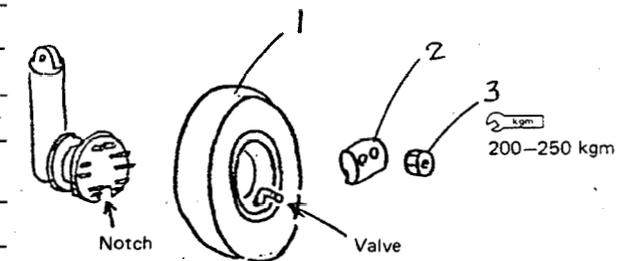

Fig. 2
- 2) Align the notched position of the front axle valve and the position of the clamps, and push the tire onto the hub. (Fig. 2)